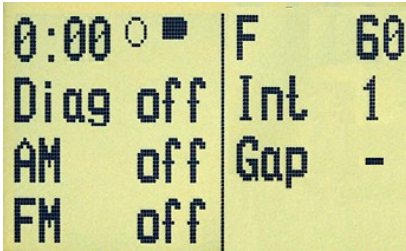
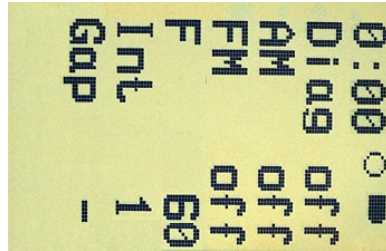

Fig. 5a
Fig. 5b
6.3 The device can display information on the screen in 3 possible directions: horizontal (Fig.5a), vertical for the right hand and vertical for the left hand (Fig.5b). This may be convenient, for example, when operating with the left and the right hands alternately. To rotate the image on the screen, press the "▲" button in the "B" mode or in the Diagnostics mode.